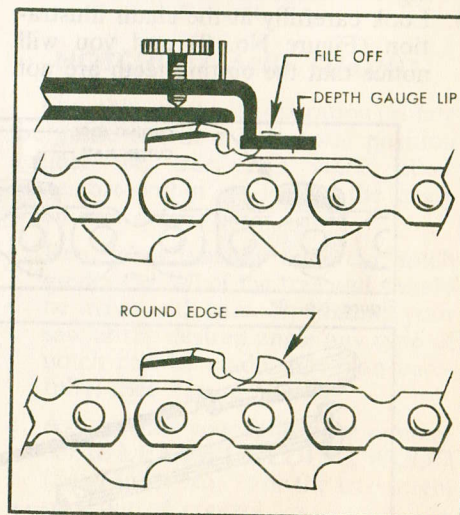

Figure No. 11
- a. Turn the dial on the depth gauge (CST-34) to the right until it is closed, then turn it to the left to the desired measurement (.035). Place gauge on top of cutting tooth with the dial up and the flat lip pointed in the same direction as the cutting edge of the tooth. (See Figure No. 11)